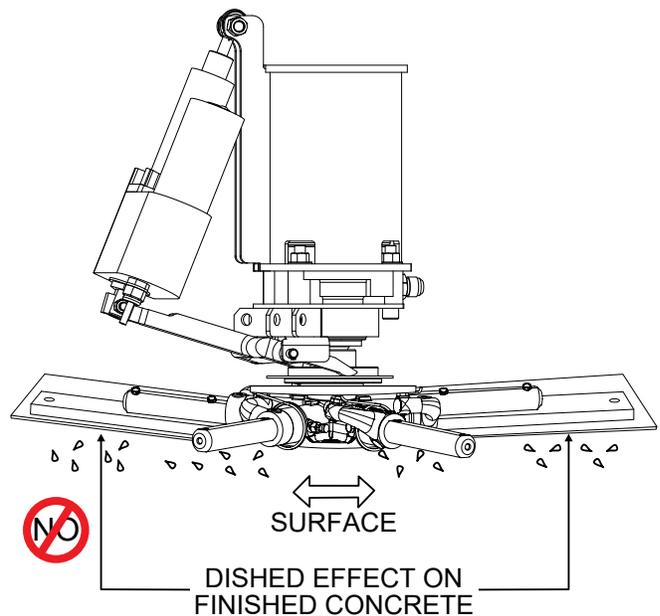

Figure 44. Incorrect Spider Plate Alignment
3. If any adjustment bolts are not making contact with the lower wear plate, adjustment will be necessary. Figure 44 illustrates incorrect alignment, worn spider bushings, or bent trowel arms.